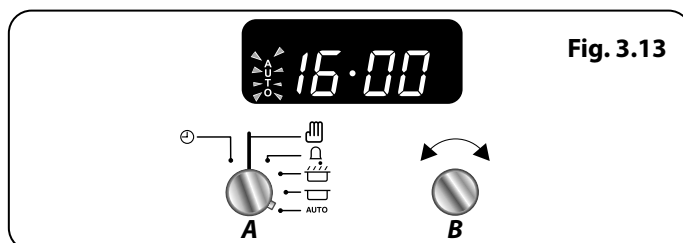

Fig. 3.13
6. When the program starts the oven, the cooking symbol will appear on the display. Once the specified time has elapsed, it will emit an alarm and the Multifunction Oven will stop working. The 'Cooking' symbol on the display will disappear and the word 'AUTO' will flash (**Fig. 3.13**).